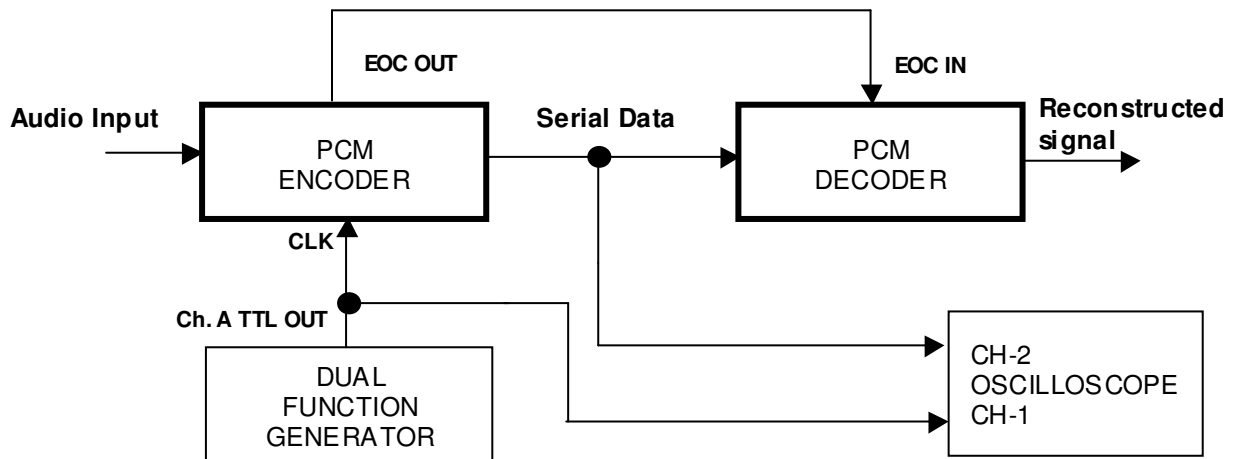

Figure 4.1
1. Figure 4.1 shows the block diagram of the experimental setup used to observe the PCM encoding/decoding and the effects of companding on the reconstruction of a received signal. The 8.0 kHz CLK signal (square wave) is obtained from channel A of the Dual Function Generator (Attenuator: 0dB, Output Level: 1/4 turn CW).